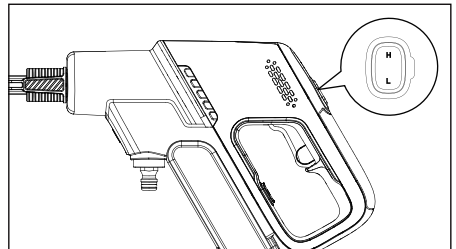

Fig. 9
ADJUSTING THE CLEANING PRESSURE (Fig. 9)
2. Short press the pressure setting button to switch between settings as needed. The corresponding indicator light will illuminate to indicate the selected mode. (Fig. 9)